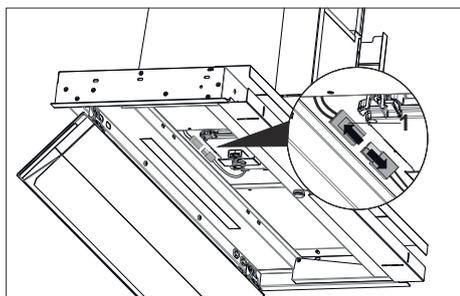

Fig. 25
2. → To remove the lamp, disconnect the lamp socket (Fig. 25) connected to your device.